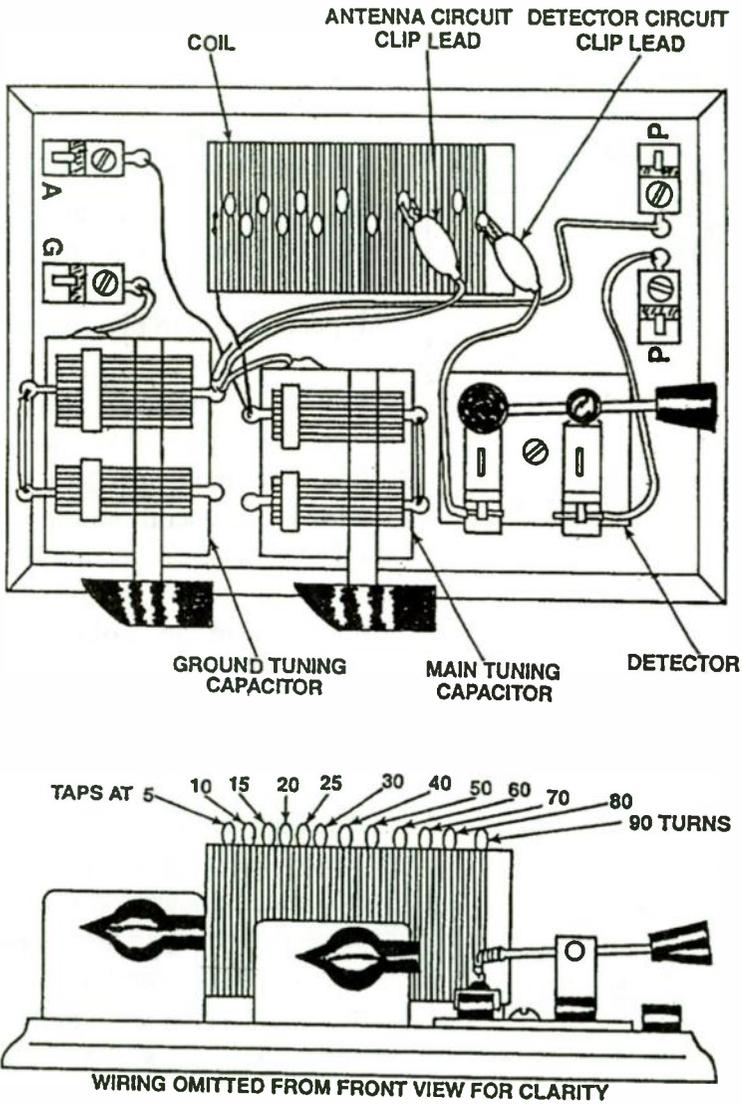

Figure 2: High performance crystal set
STEP 6. Place the tuning capacitors, coil, Fahnstock clips, and detector on the board as shown and outline their locations with a scribe or felt pen. (Refer to Figure 2)
STEP 10. Drill small pilot holes and mount the Fahnestock clips for the antenna, ground, and phones with wood screws (Refer to Figure 2).
**STEP 11.** Connect the coil antenna lead to the stator of the main tuning capacitor and then to the antenna clip. Be sure to scrape the enamel off of this wire where solder connections are made. Connect the stator sections of the main tuning capacitor together with a short piece of hook-up wire, then repeat the same on the ground tuning capacitor. (Refer to Figures 2 & 3, Photo 5)